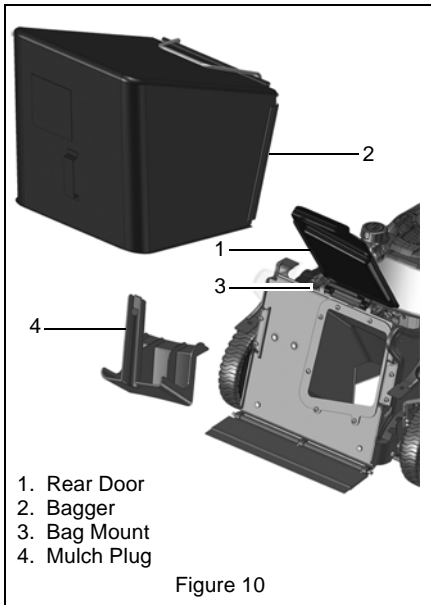
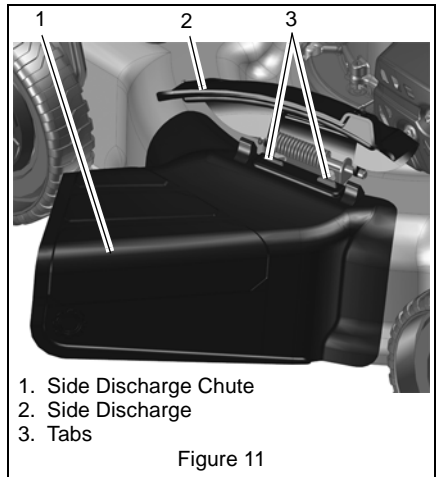

Figure 10
Figure 11
See Figure 10.
See Figure 11.
3. Lift rear door and install mulch plug (see Figure 10). Make sure mulch plug is locked by pulling on the handle near the bottom of the plug.
See Figure 10 and Figure 11.